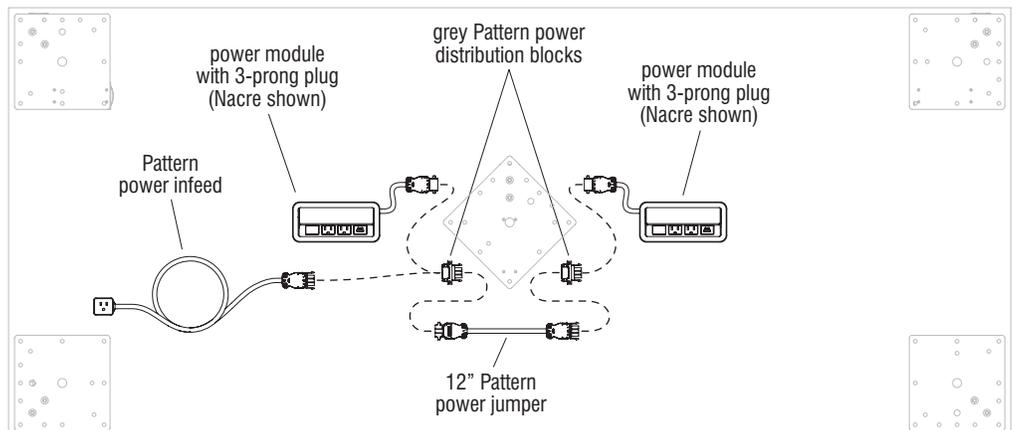

Figure 6 - (top view)
3. Plug each power module's female connector end into a Pattern power distribution block (Figure 6).
2. Position the 12" Pattern power jumper in between the two grey distribution blocks. Plug the jumper's female connector end into one of the Pattern power distribution blocks and the power jumper's male connector end into the opposite distribution block (Figure 6).